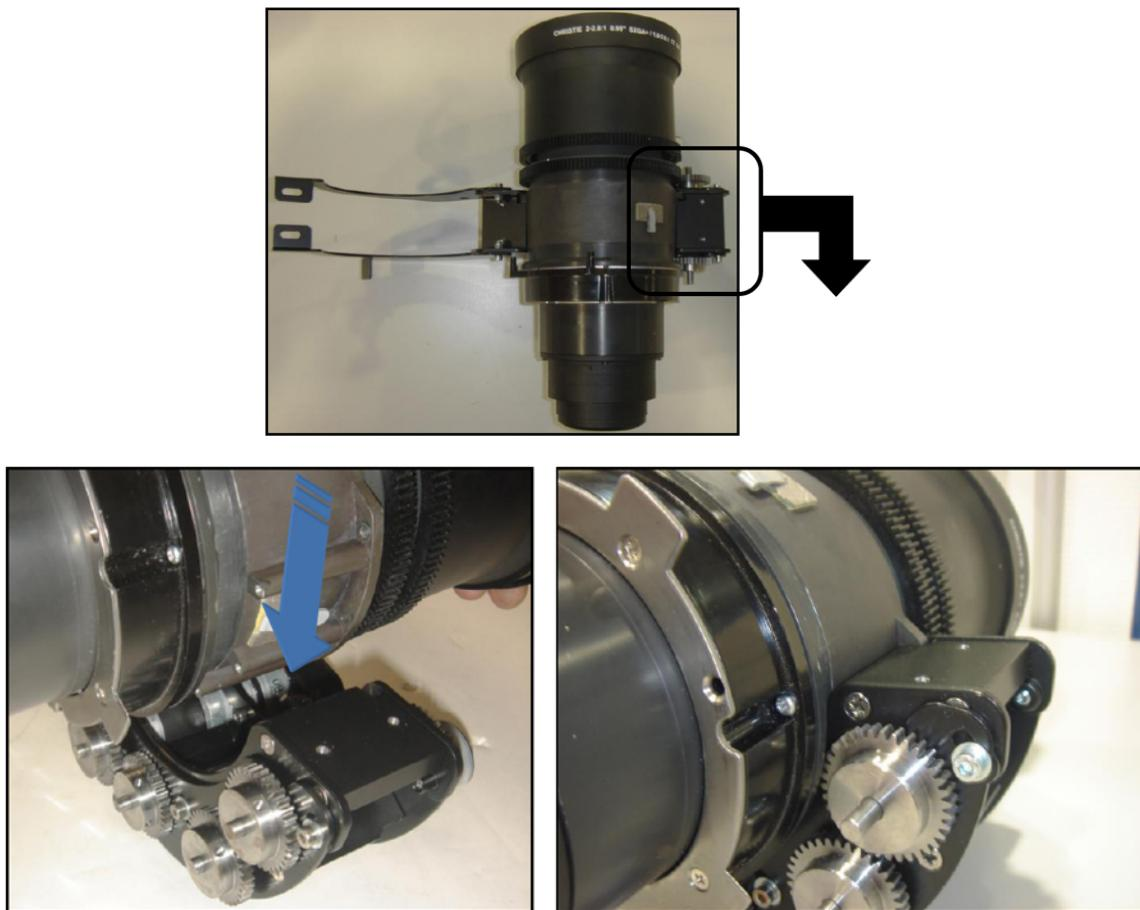

Figure 3-9 Place Lens in Motor Set
6. Place the lens in the motor set in the orientation shown in **Figure 3-9**.